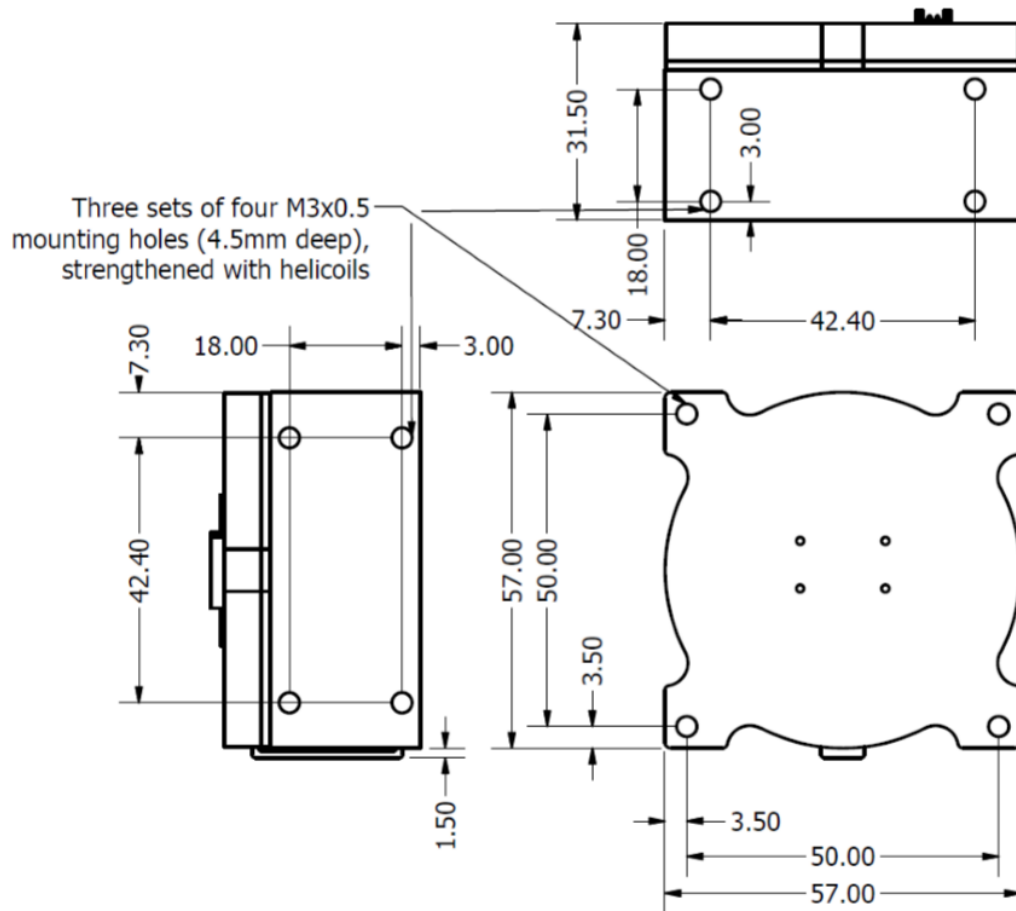

Figure 10 – Large CubeWheel mechanical interface
The Large CubeWheel unit has three sets of four M3 mounting holes on three different facets, as illustrated in Figure 10. The outer dimensions of the Large CubeWheel are 57 mm x 57 mm x 31.5 mm. Note that an additional 1.5 mm is required on one side of the CubeWheel for internal harnesses. The M3 mounting holes will be fitted with A2 (304) stainless steel heli-coils to provide a stronger and more durable thread.